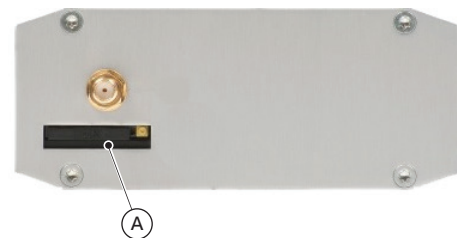

Figure 2 SIM card slot location
- 1 Referring to Figure 2 , insert a data-enabled SIM card in slot (A) in the back panel.